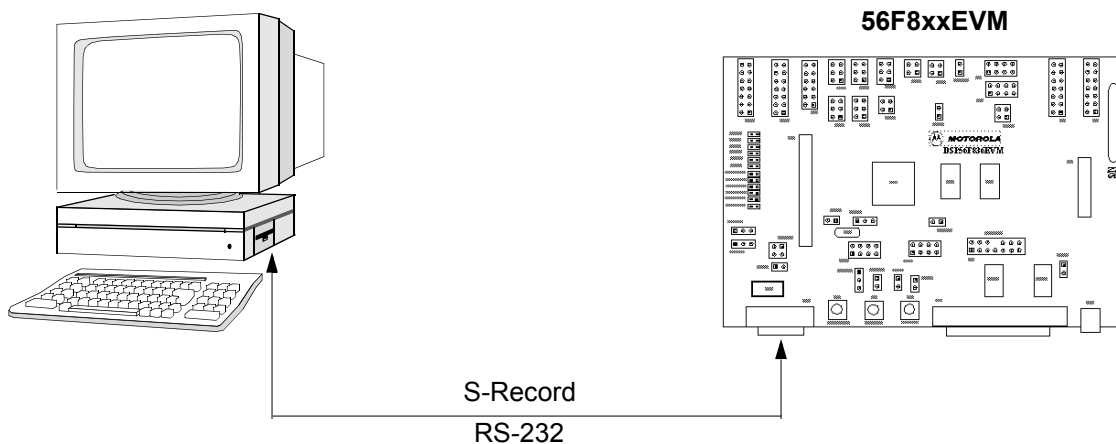

Figure 1-3. Loading a User's Application via Serial Bootloader
- The RS-232 socket must be connected by serial cable with the host PC's COM serial port (See Figure 1-3)